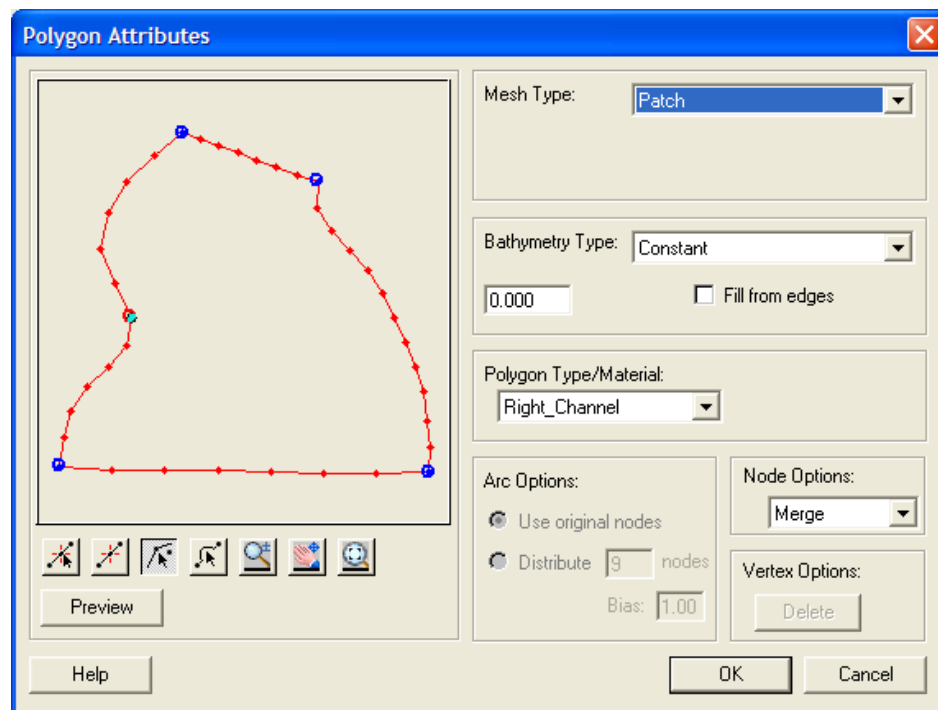

Figure 2-9 The Feature Polygon Attributes dialog.
3. Click on the node at the center of the left side, as seen in Figure 2-9.